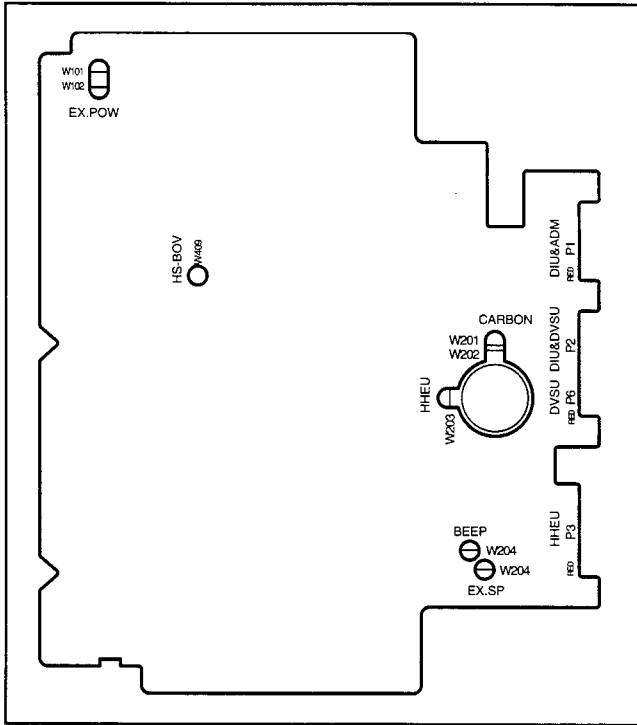
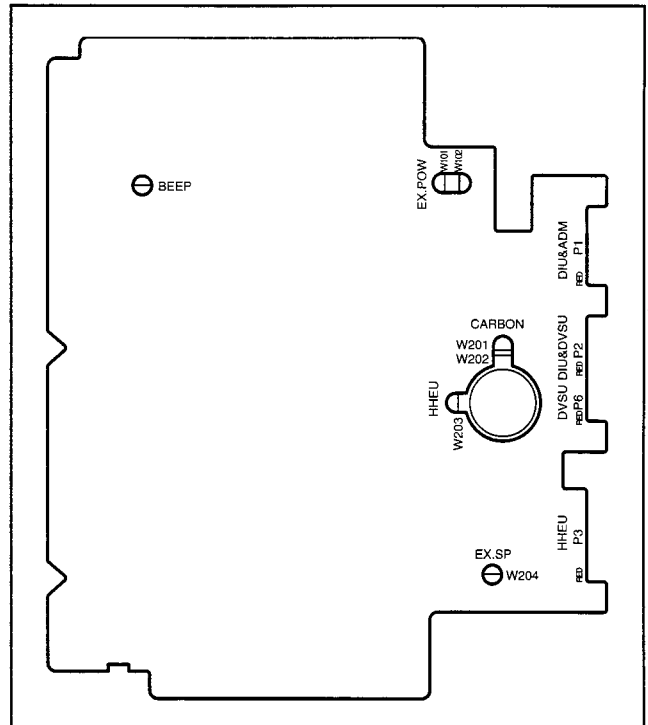

FIGURE 6-7
FIGURE 6-8
- 4A) If installing the DVSU into a 2000-series digital telephone, refer to Figure 6-7 (DKT2010-H) or Figure 6-8 (DKT2010-SD, DKT2020-S, DKT2020-SD), and then connect the DVSU wire plugs to the **DVSU** connectors on the printed circuit board (PCB) inside the telephone.
- 7A) For 2000-series digital telephones, refer to Figure 6-7 (DKT2010-H) or Figure 6-8 (DKT2010-SD, DKT2020-S, DKT2020-SD), and connect the wire plug of the HHEU PCB to the **HHEU** connector on the printed circuit board (PCB) on the telephone.
- 8A) For 2000-series digital telephones, refer to Figure 6-7 (DKT2010-H) or Figure 6-8 (DKT2010-SD, DKT2020-S, DKT2020-SD), and locate the **EX.SP** strap on the PCB in the telephone. Cut the strap if an HESB will be connected to the HHEU.
- 9A) For 2000-series digital telephones, refer to Figure 6-7 (DKT2010-H) or Figure 6-8 (DKT2010-SD, DKT2020-S, DKT2020-SD), and locate the **HHEU** strap on the PCB in the telephone. Cut the strap if a headset will be connected to the HHEU.
- 2A) For 2000-series digital telephones refer to Figure 6-7 or 6-8, and cut the **CARBON** straps, **W201** and **W202**.
- 2A) For 2000-series digital telephones, refer to Figures 6-7 or 6-8, and cut the **BEEP** strap.
- 2) Refer to Figure 6-7, and install a strap in the **HS-BOV W409** location.
- 2) Depending on the telephone, refer to Figure 6-7, 6-8, or 6-9 and locate the **EX.POW** straps, **W101** and **W102**. Cut these straps.